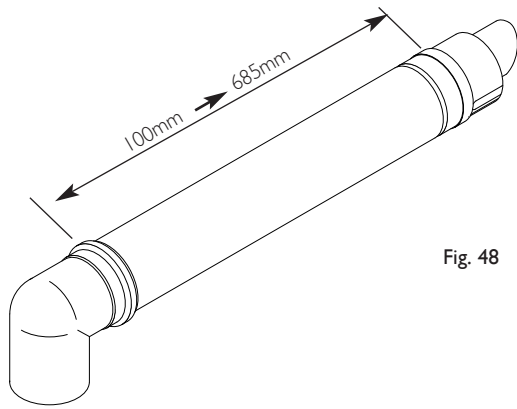

Fig. 48
1. The standard flue is suitable for lengths between 100mm minimum and 685mm maximum, as measured from the edge of the flue elbow outlet to the joint between the terminal and air duct (Fig. 48).